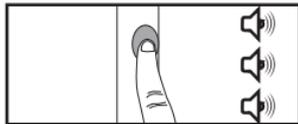

Figure 24.2; Press and Hold Programming Button
Press and hold the PROGRAMMING BUTTON on the E-Wand until you hear a TRIPLE BEEP (3), then release. [Fig. 24.2].